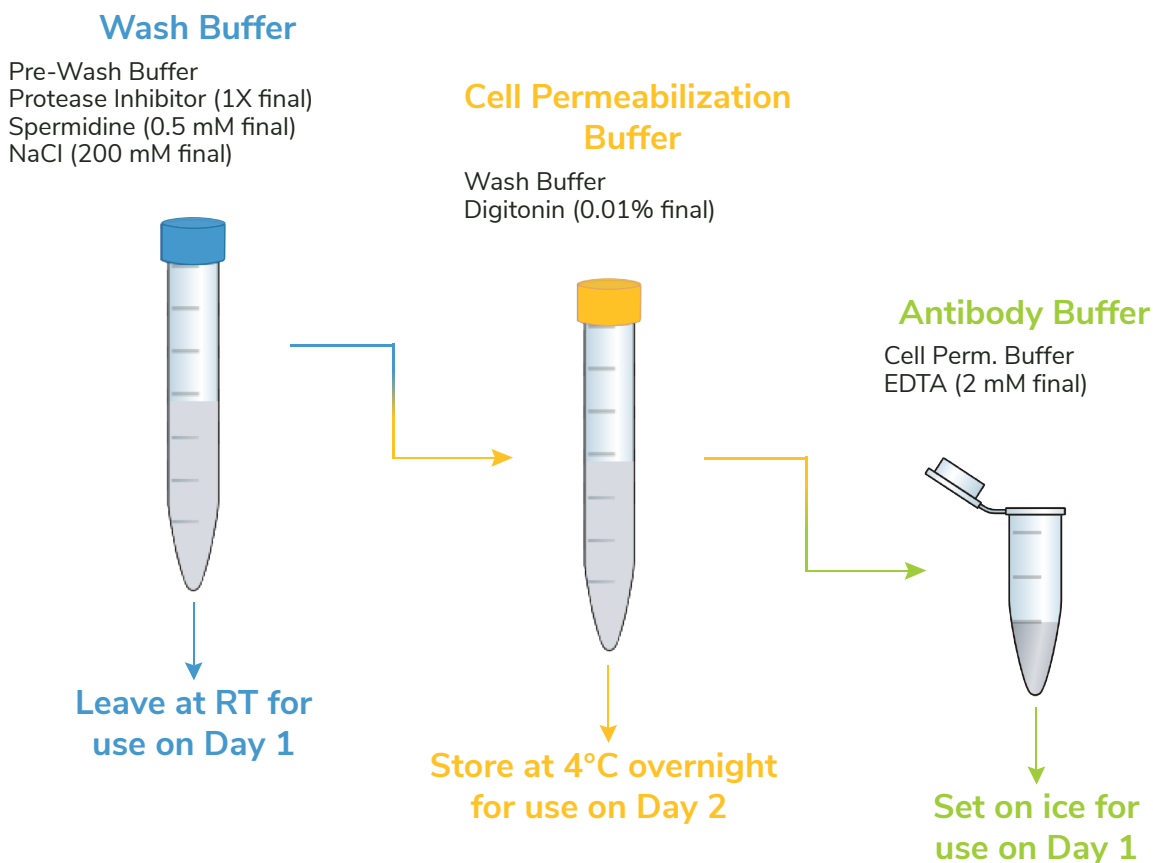

FIGURE 5
- * Buffers (Figure 5) are prepared FRESH on Day 1 of every meCUT&RUN experiment.